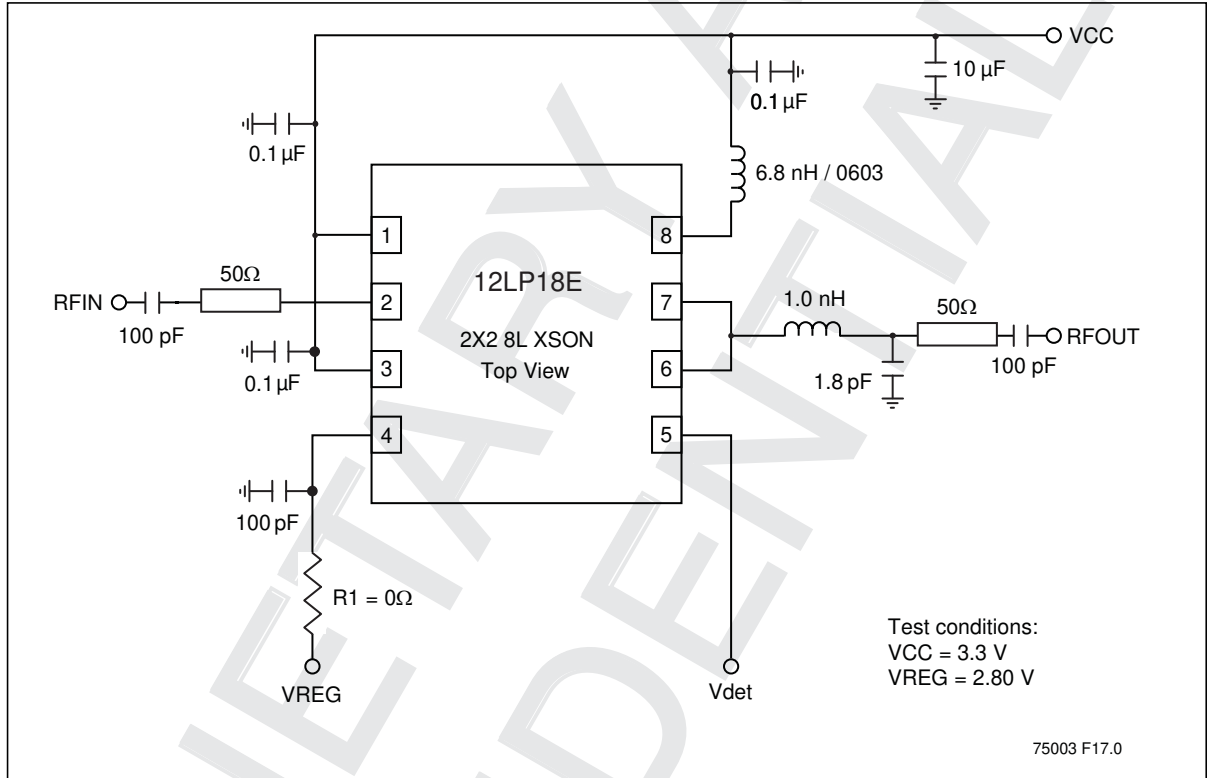

Figure 8: Typical Schematic for High-Linearity 802.11b/g/n/ac Applications
- See Figure 8
2. See Figure 8